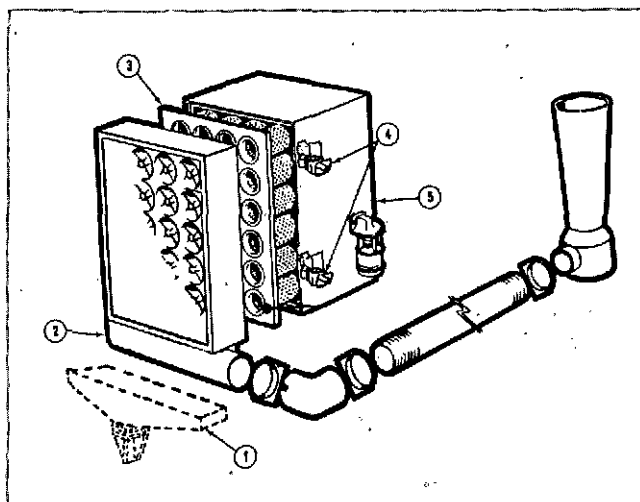

Fig. 10-1-6, N21026. Cartridge type air cleaner
1. Loosen wing nuts (4, Fig. 10-1-6) on air cleaner housing (5) to remove pre-cleaner panel equipped with dust bin (1). To remove pre-cleaner panel equipped with exhaust aspirator (2) loosen "U" bolt clamp securing pre-cleaner to aspirator tubing.
2. To remove dirty Pamic cartridge (3), insert fingers in cartridge opening using a "bowling-ball grip." Loosen all
2. To install a new cartridge, hold cartridge (3, Fig. 10-1-6) in same manner as when removing from housing (5). Insert clean cartridge into housing; avoid hitting cartridge tubes against sealing flange on edges of air cleaning housing.
4. Replace pre-cleaner panel (2) and tighten wing nuts (4). On pre-cleaner with exhaust aspirator, assemble aspirator tube to pre-cleaner panel and tighten "U" bolt.